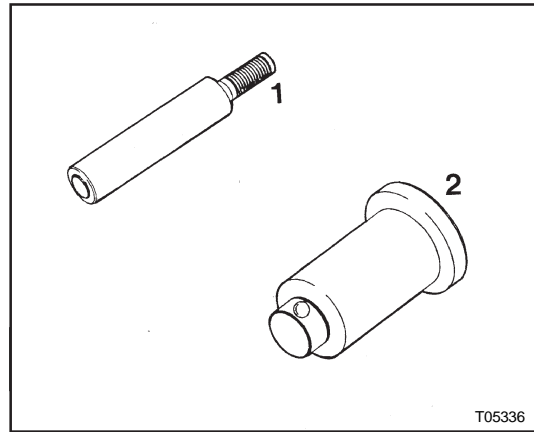

**Figure 23: To install the lower needle roller bearing and the grease seal**
3. Install the lower needle roller bearing and the grease seal as follows (see figure 23):